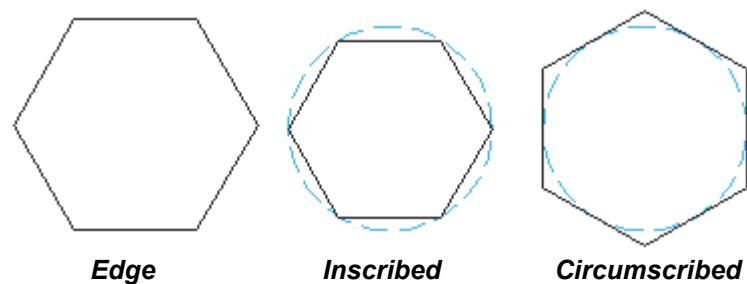

Figure 2–9
4. If you are starting with a center point, select the **Circumscribed** or **Inscribed** method, as shown in Figure 2–9, and set the base radius. If you have selected the **Edge** method, specify the first and second end points of the edge.